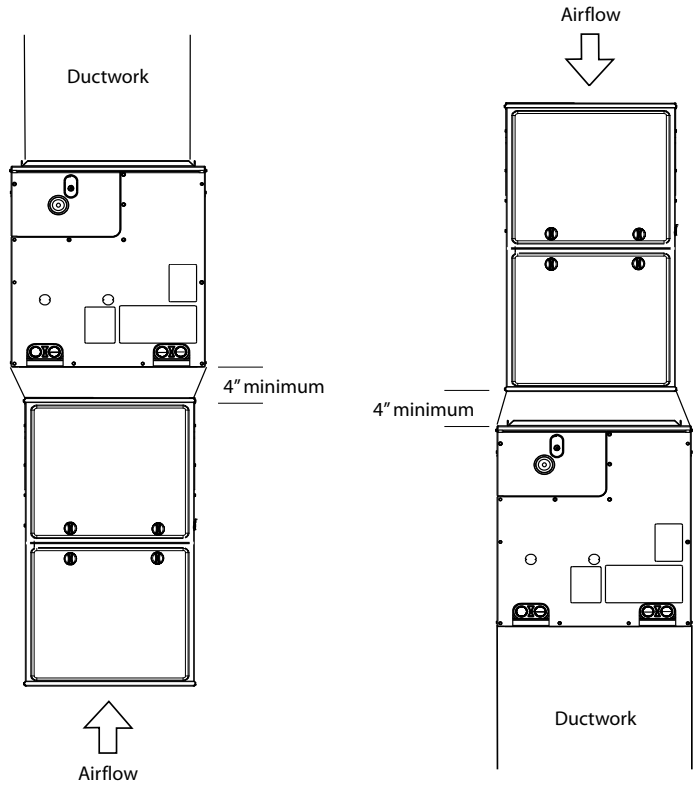

Fig. 3 – Adapter(s) Installation When Coil is Larger than Furnace (recommended) A200228C
3. When installing wider coil on narrower furnace, it is recommended to use a transition adapter (Fig. 3).